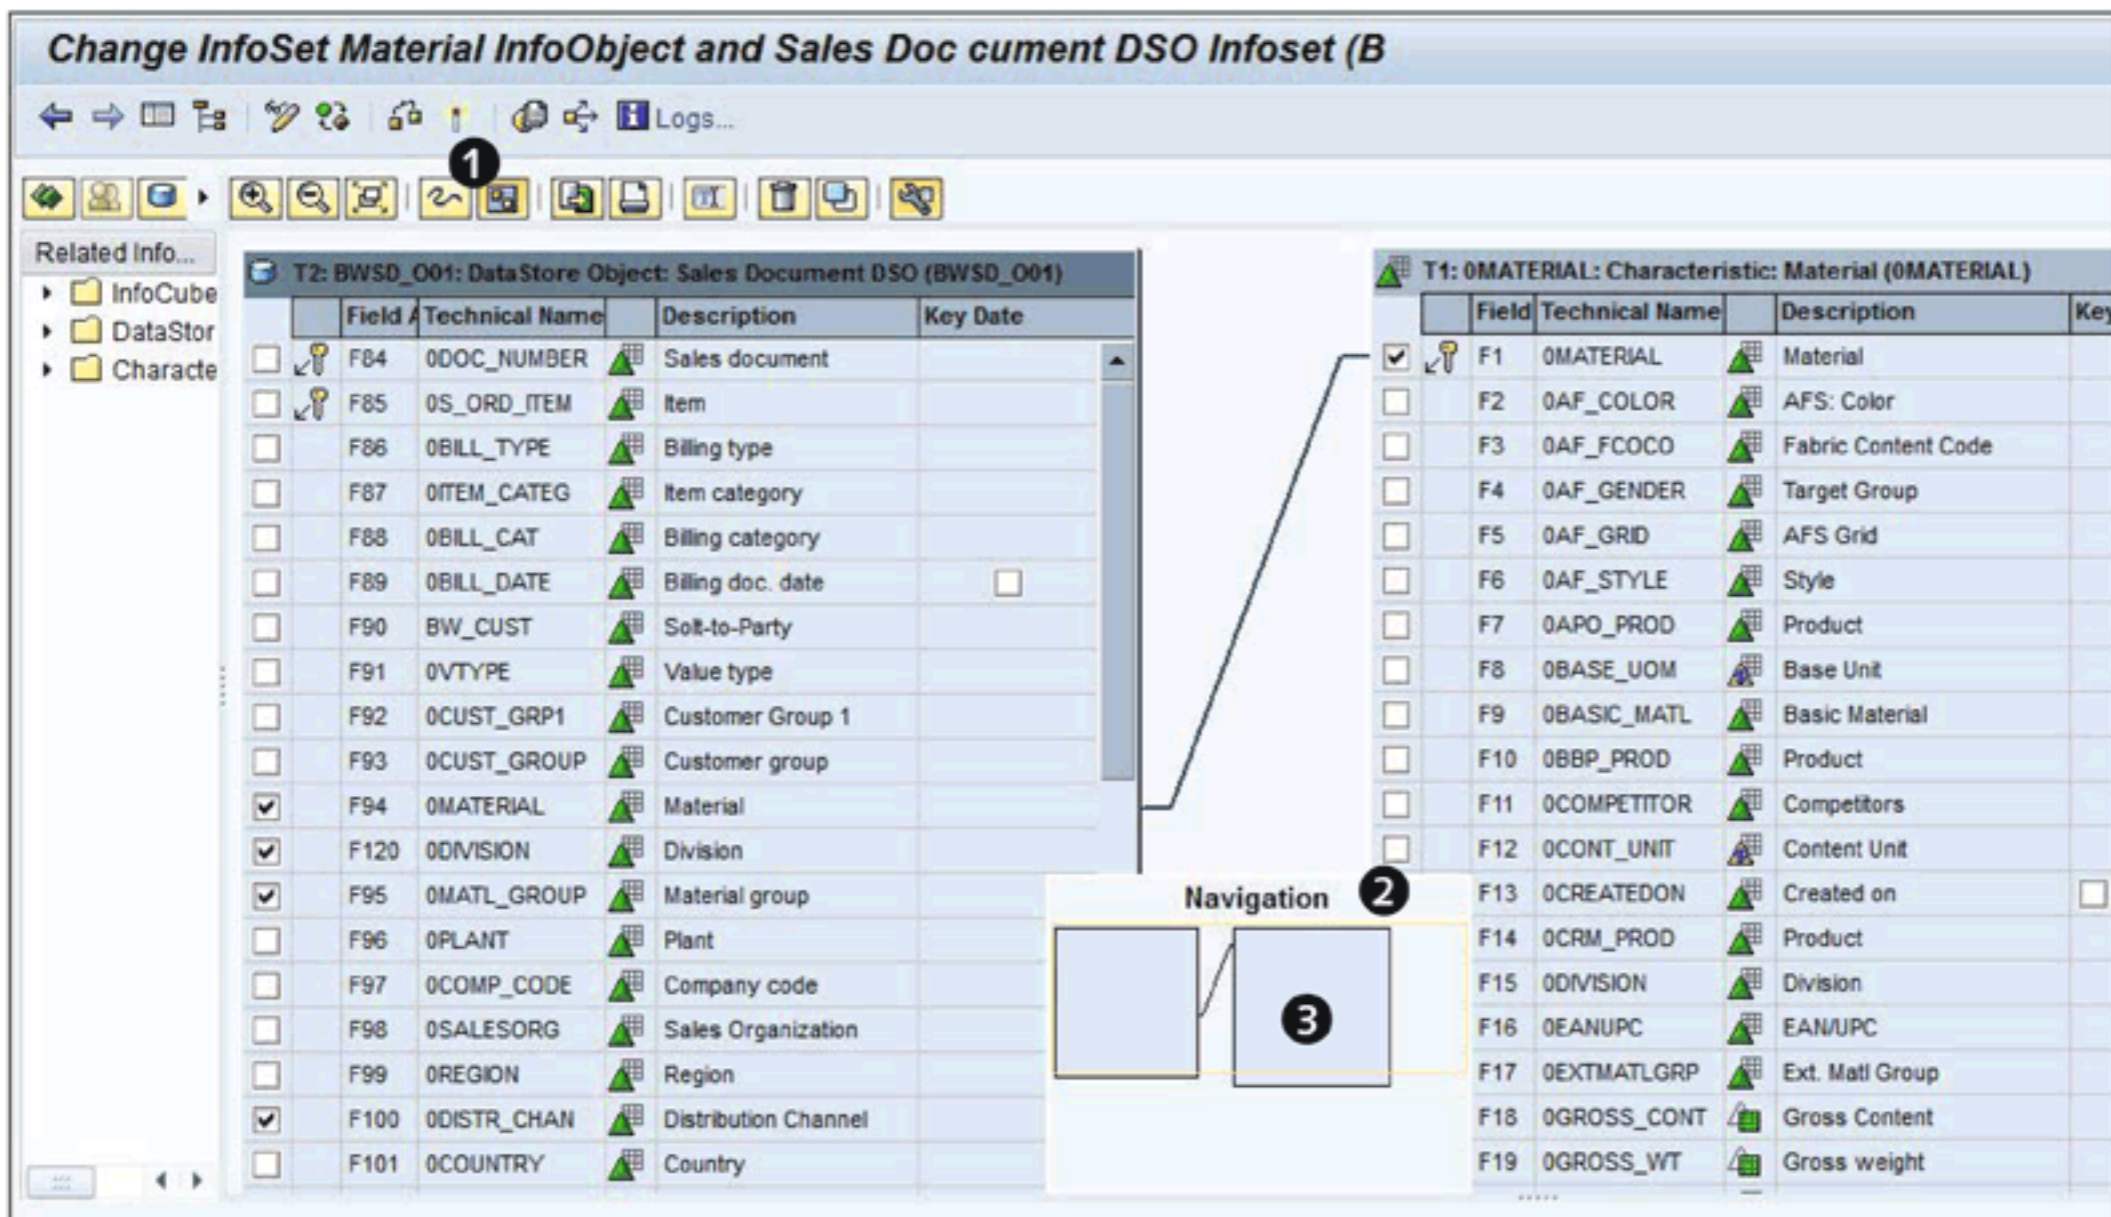
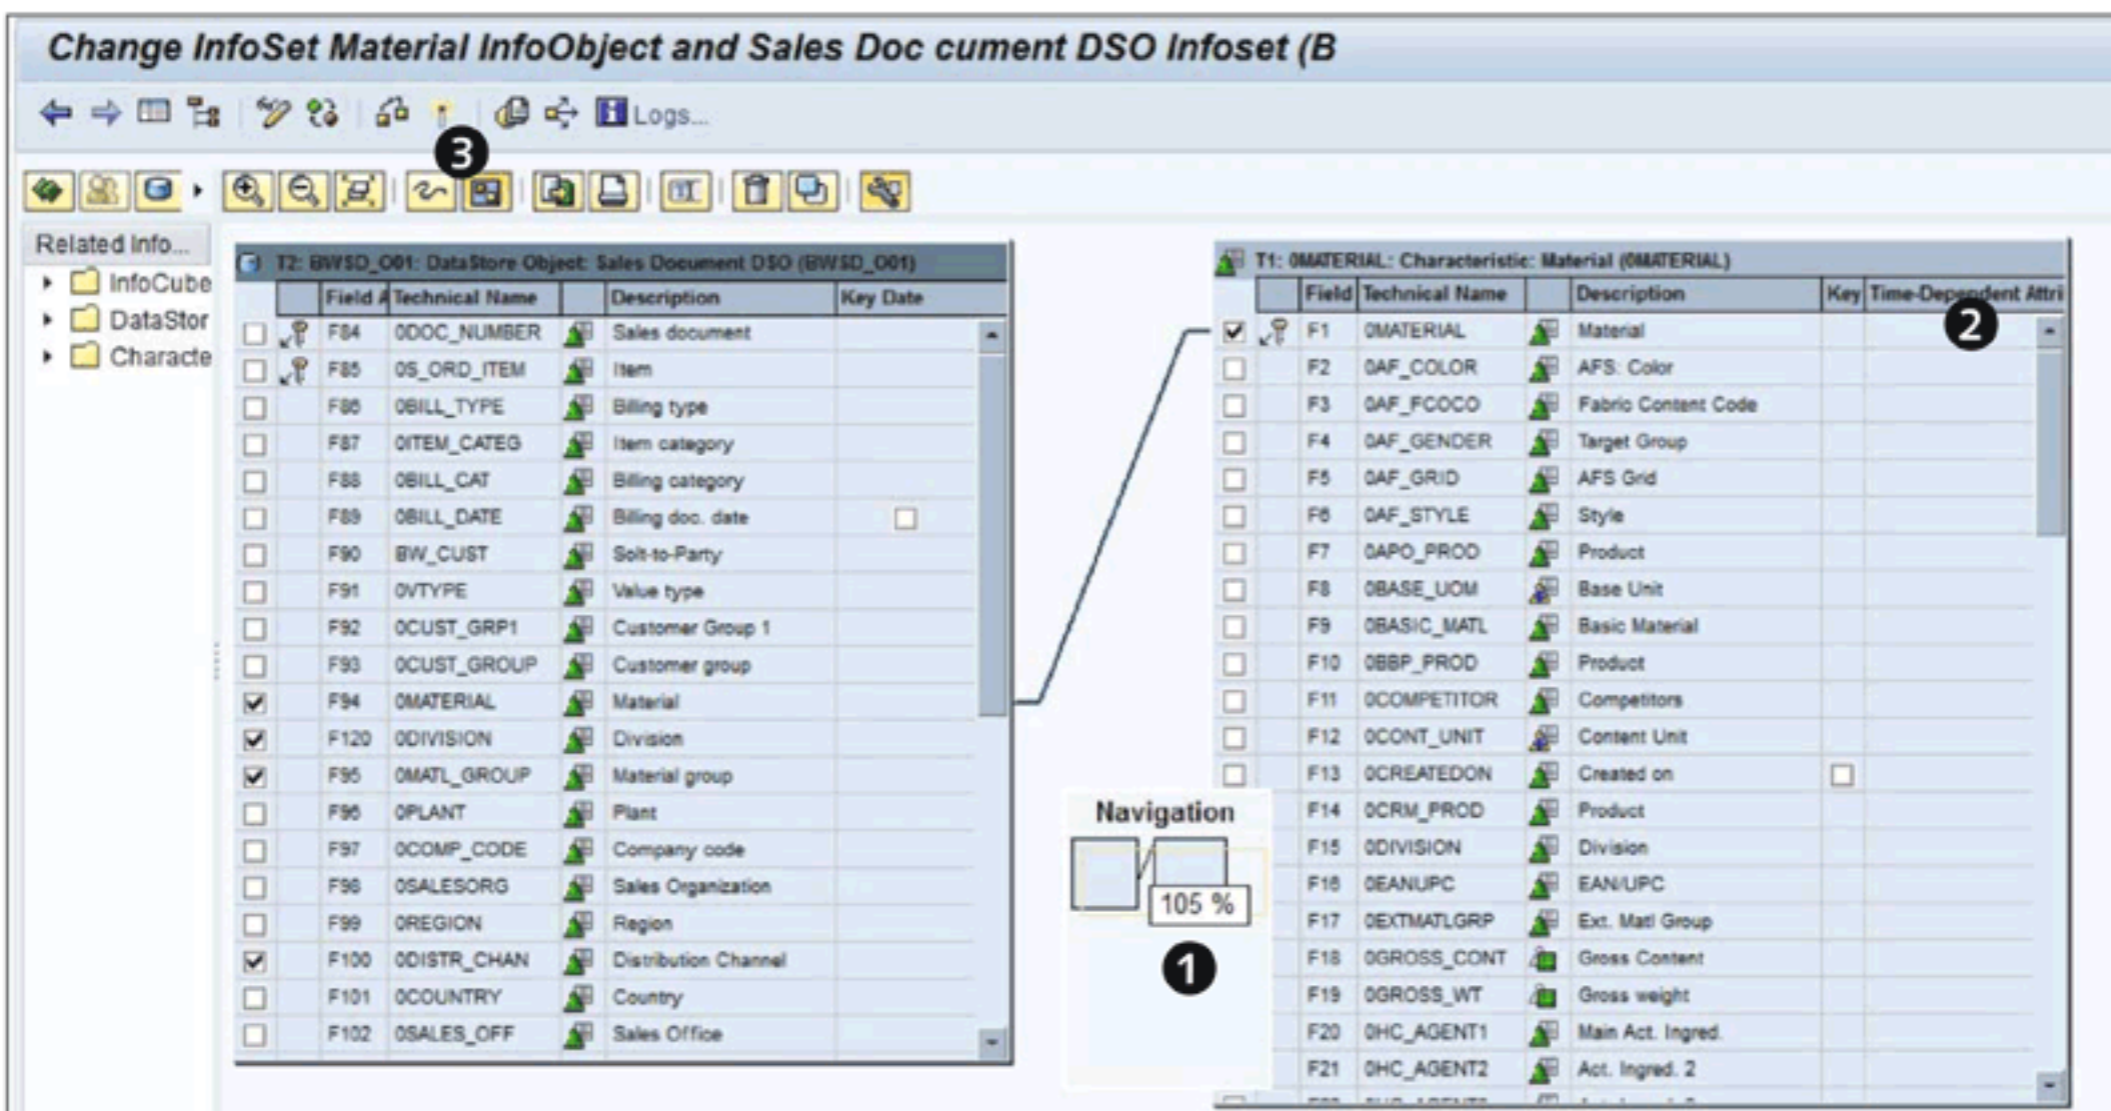
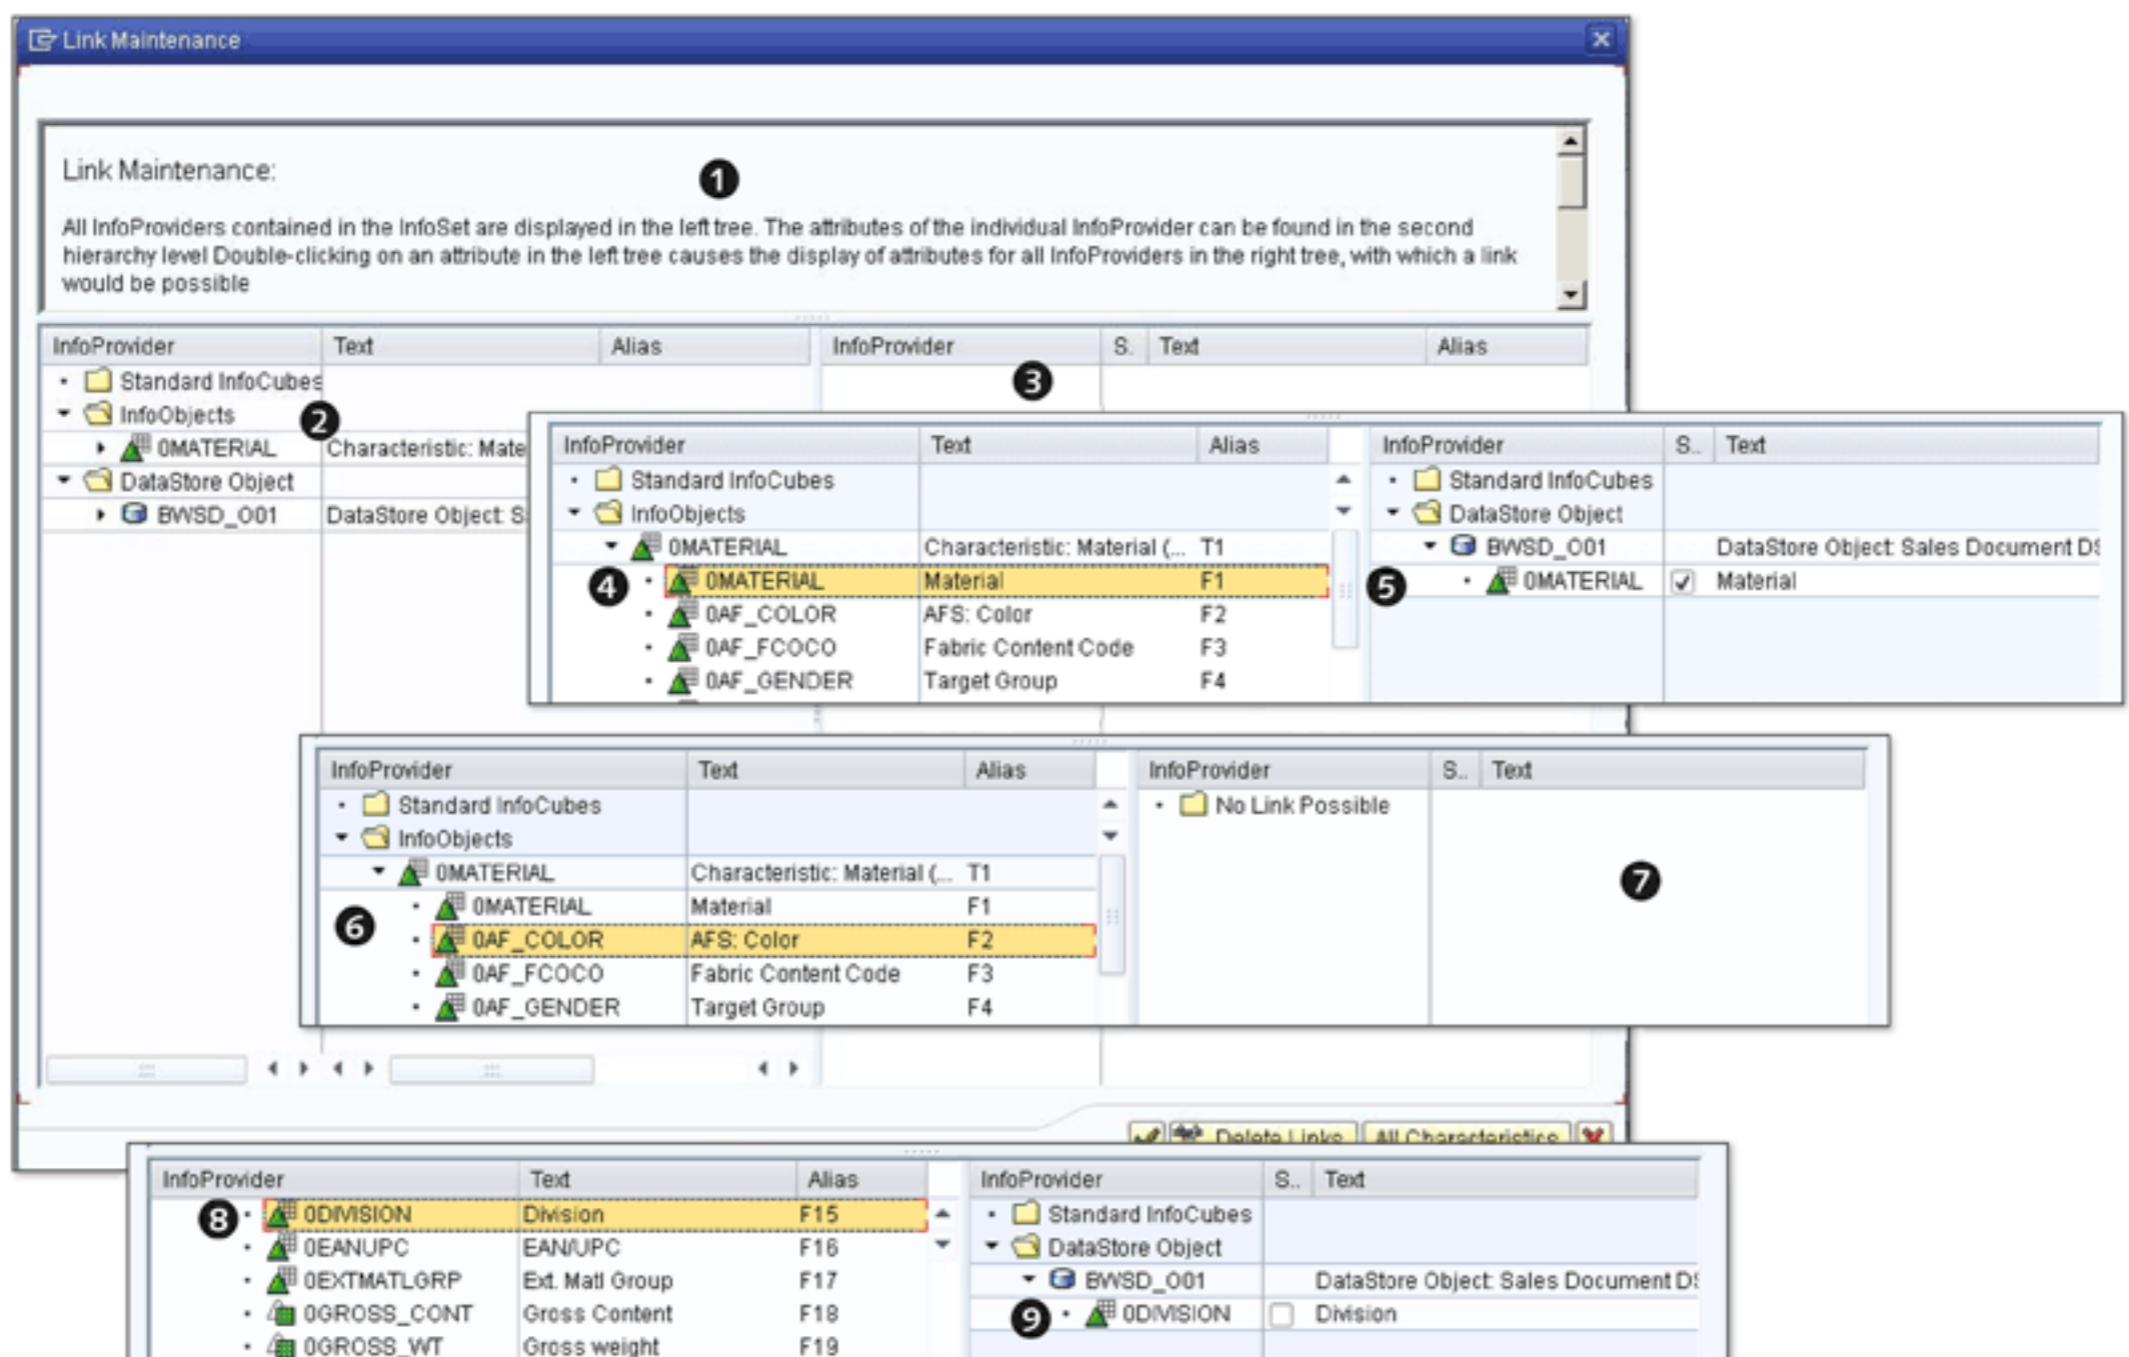

Figure 6.33 Using the Navigator Function
Figure 6.34 Result of Using the Navigator
Figure 6.35 Link Maintenance
When you're in the InfoSet change screen, it sometimes happens that all of the source objects don't fit on one screen. For example, as shown in Figure 6.33, the rightmost column (e.g., KEY DATE) isn't visible. There are three ways to adjust this view. The first way is to use the standard horizontal scroll bar available on any SAP NetWeaver BW screen, and scroll to the right side. The second way is to use the ZOOM OUT icon (), which reduces the size of the font to accommodate
The third way is to use the NAVIGATOR function. Click on the SHOW/HIDE NAVIGATOR icon (🔍), as shown in ❶ of Figure 6.33. The result is that SAP NetWeaver BW adds a small box titled NAVIGATION (❷).
Here you can drag the NAVIGATION box, shown in ❸ of Figure 6.33, to the right-most side of the NAVIGATION box. The resulting screen is shown in ❶ of Figure 6.34. The content on the extreme right-hand side of the InfoSet definition screen is now visible (❷ of the Figure 6.34).
When an InfoSet definition has two or more source objects and multiple joins, it may become difficult to move up and down or left and right to maintain the different joins involved in the definition of the InfoSet. An alternative way to maintain the join is by using LINK MAINTENANCE. Click on the LINK MAINTENANCE icon (🔗), as shown in ❸ of Figure 6.34. The pop-up box titled LINK MAINTENANCE appears (Figure 6.35).
A brief description regarding the link maintenance functionality is shown in ❶ of Figure 6.35. A list of the included InfoProviders in the definition of the InfoSet is also given (❷). The right side panel is initially empty (❸).